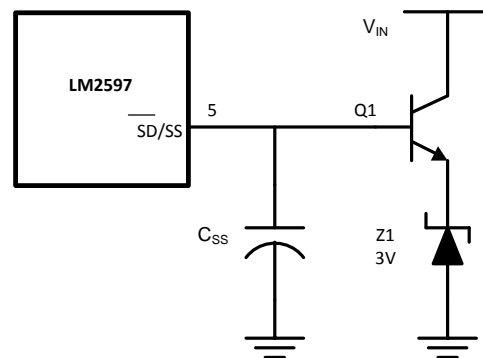

Figure 32. External 3.7-V Soft-Start Clamp
4. Normal operation – Above 2.8 V, the circuit operates as a standard Pulse Width Modulated switching regulator. The capacitor will continue to charge up until it reaches the internal clamp voltage of approximately 7 V. If this pin is driven from a voltage source, the current must limit to about 1 mA. If the part is operated with an input voltage at or below the internal soft-start clamp voltage of approximately 7 V, the voltage on the  $\overline{SD/SS}$  pin tracks the input voltage and can be disturbed by a step in the voltage. To maintain proper function under these conditions, TI strongly recommends clamping the  $\overline{SD/SS}$  pin externally between the 3-V maximum soft-start threshold and the 4.5-V minimum input voltage. Figure 32 is an example of an external 3.7 V (approximately) clamp that prevents a line-step related glitch but does not interfere with the soft-start behavior of the device.